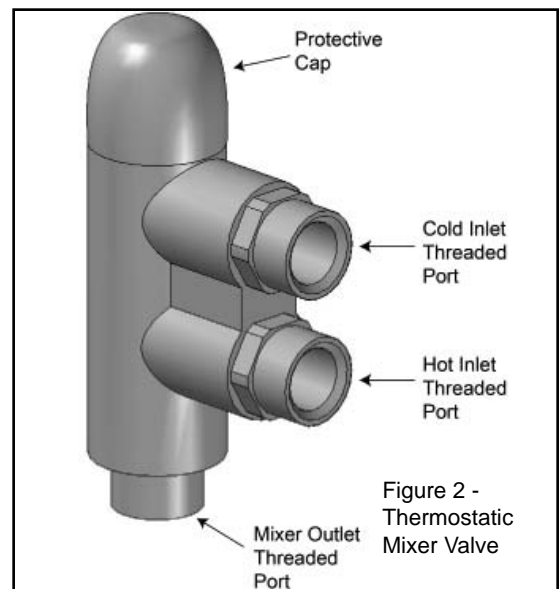

Figure 2 - Thermostatic Mixer Valve
- Remove the protective cap from the Thermostatic Mixer Valve by turning the lid counter-clockwise (Figure 2)
- Open the hot water tap and isolate the cold water inlet to the thermostatic mixer valve (Figure 2).